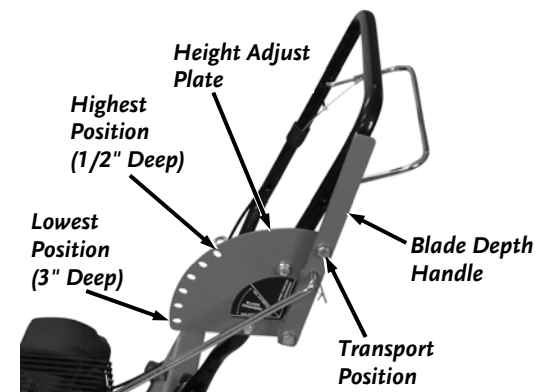

Figure 14
4. As you hold the Throttle Bail-Bar to the Handlebar, move the Blade Depth Handle to the side to release it from the Height Adjust Plate (*Figure 14*).